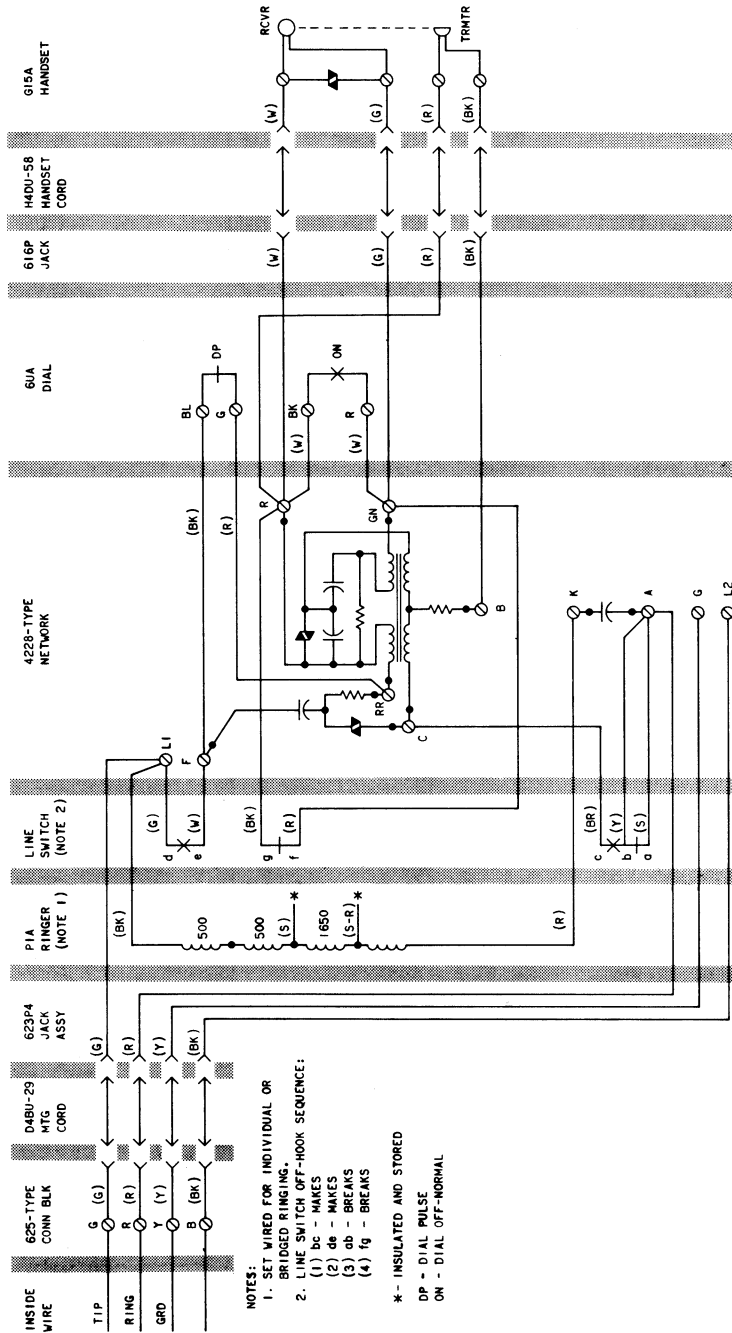

Fig. 3—881B109 Telephone Set, Connections
3.02 The internal connections for the 881B109 and 2881B109 telephone sets, for nonkey system use, are shown in Fig. 3 and 4.
3.03 Connections for 1A KTS do not require any telephone set modifications and are wired same as Fig. 3 and 4.